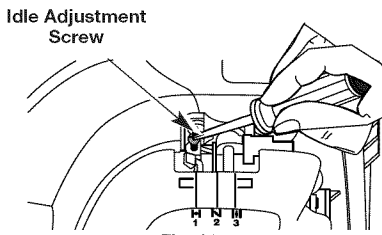

Fig. 26
The idle speed of the engine is adjustable. An idle adjustment screw is between the air filter cover and the engine starter housing (Fig. 26).
2. Release the throttle trigger and let the engine idle. If the engine stops, insert a small phillips in between the Air Filter Cover and the Engine Cover (Fig. 26). Turn the idle speed screw in, clockwise, 1/8 of a turn at a time (as needed) until the engine idles smoothly.